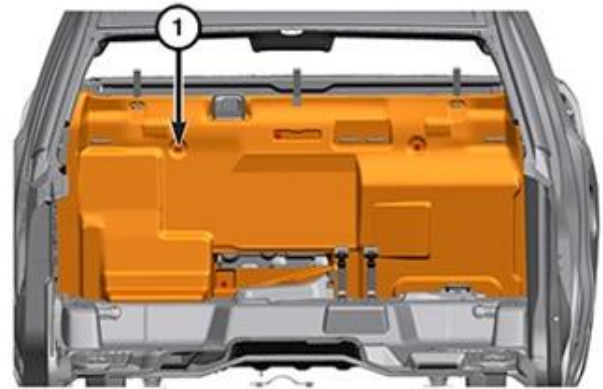

Figure 3 – Rear Cab Back Trim Panel
5. Remove the rear cab back trim panel. Refer to the detailed service procedures available in DealerCONNECT/Service Library under: Service Info> 23 – Body / Interior / PANEL, Back Trim / Removal and Installation (Figure 3).
13. Install the back panel trim. Refer to the detailed service procedures available in DealerCONNECT/ Service Library under: Service Info> **23 - Body/Interior/PANEL, Back Trim/Removal and Installation** (Figure 3).